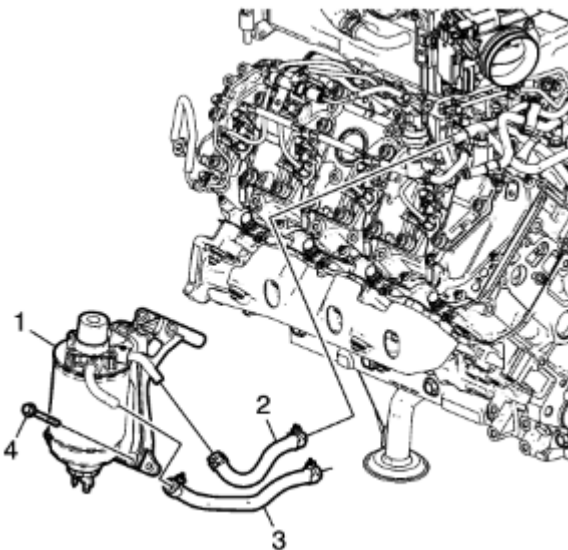

Fig. 142: Fuel filter assembly installation
STEP 21: Install the intake manifold tube assembly as shown in figure 142. Torque items 1-3 to 18 ft-lb. Torque item 4 to 53 in-lb. Reconnect the electrical harness connection to the throttle body.
- Install the fuel filter and bracket assembly as shown in figure 142. Torque the mounting bolts to 18 ft-lb. Connect the fuel filter hoses (items 2 and 3 in figure 142) as shown.